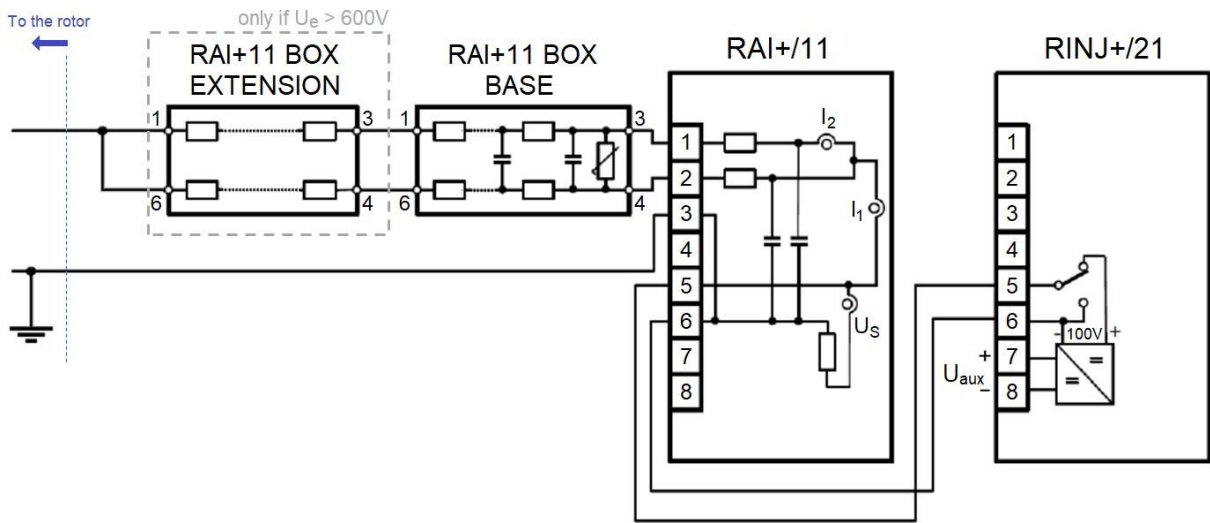

Figure 1-3 Wiring for ConnType2 (single point connection) mode
- **ConnType2** if *only one connection point* of the excitation circuit is available. In this case, both inputs of the coupling unit must be connected to this single point (Figure 1-3). Note that in this case, the fault locator and exciter overvoltage functionality is disabled.
When applying single-point connection (*ConnType2*, see Figure 1-3), fuse is not needed.